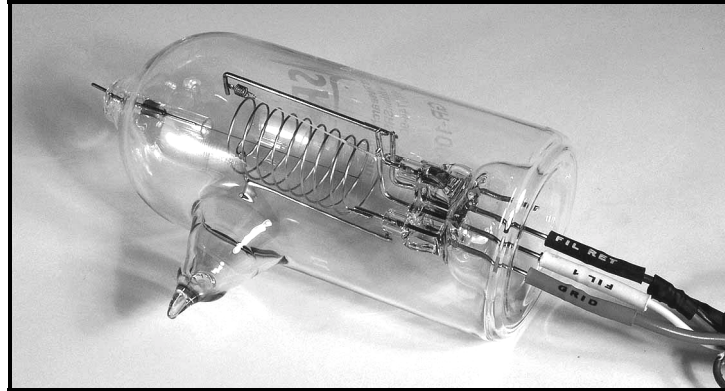

Figure 10-6. Connection of O100C3 cable to the gauge head.
Connect the cable connectors to the appropriate pins on the base of the ionization gauge: (1) Connect Fil 1 and one of the FIL RET connectors to the Filament pins on the gauge, and (2) push the GRID connector onto one of the two Grid Pins on the gauge. Consult Fig. 10-6 for a completed connection.